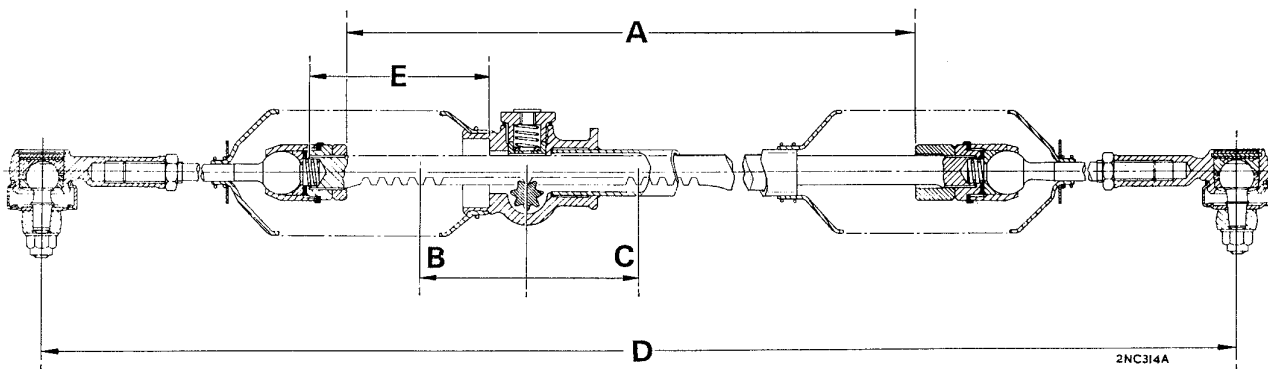

Fig. J.6
- (32) Renew all damaged or excessively worn components.
- (33) Immerse the pinion bushes and the plunger in S.A.E. 20 engine oil, and heat the oil to 100° C. (212° F.) for two hours, then allow the oil to cool before removing the bushes and plunger from the oil and fitting to the rack; this allows the pores of the bushes and plunger to be filled with lubricant.
- (34) Fit the bottom bush into the pinion housing as follows:
- (35) Fit the thrust washer, chamfered bore uppermost, into the pinion housing.
- (36) Insert the rack into the housing from the pinion end, noting the following:
- (b) Insert the rack into the housing with 3½ in. (88.90 mm.) of the teeth end protruding from the 'travel' abutment face of the pinion housing (see dimension 'E' of Fig. J.6).